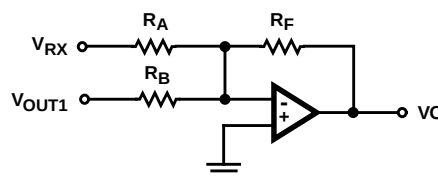

FIGURE 3. TRANSHYBRID AMPLIFIER CIRCUIT
- For transhybrid circuit as shown in Figure 3.
Since the receive signal and its echo are 180 degrees out of phase, the summing node of an operational amplifier can be used to cancel the echo. Nearly all CODECs have an internal amplifier for echo cancellation. The circuit in Figure 3 shows the cancellation amplifier circuit.